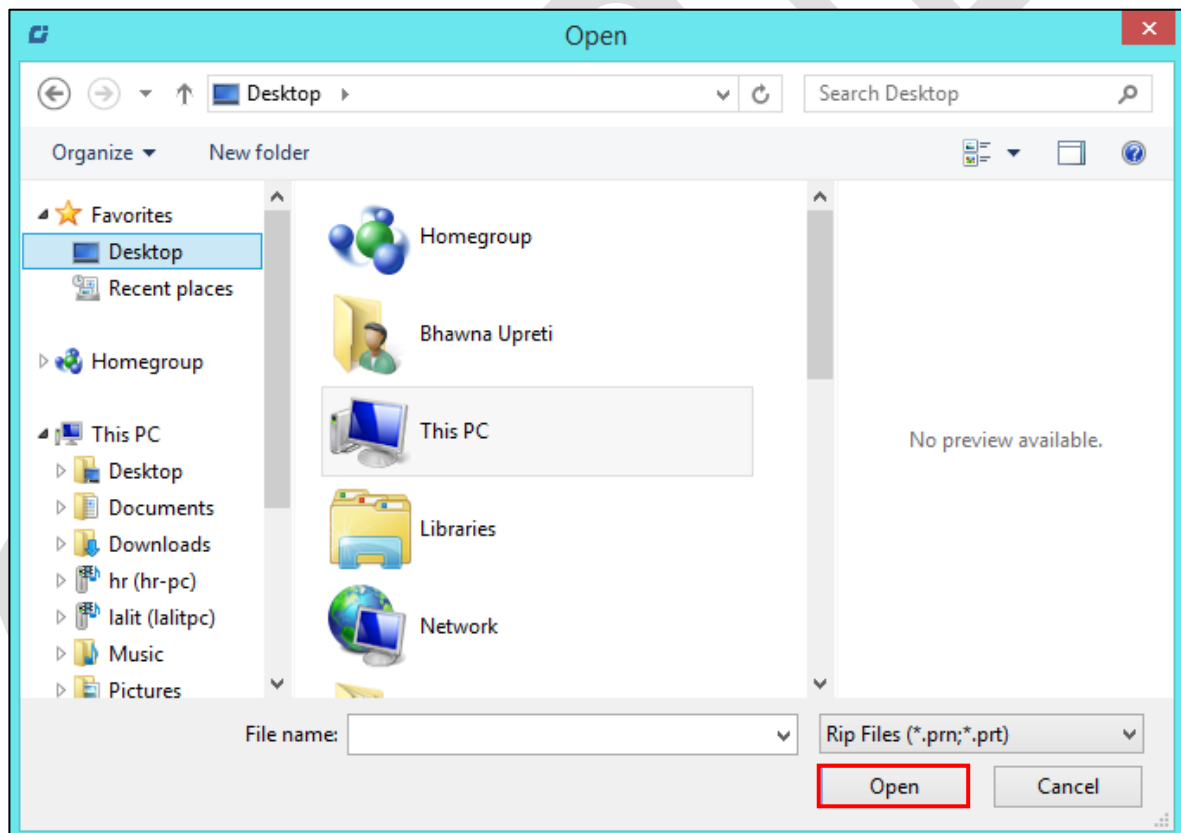

Fig 47: Displaying the Open Window
Step 2: Navigate to the location where the image file with extension **".prt"** and **".prn"** is stored (Refer to Fig 47).